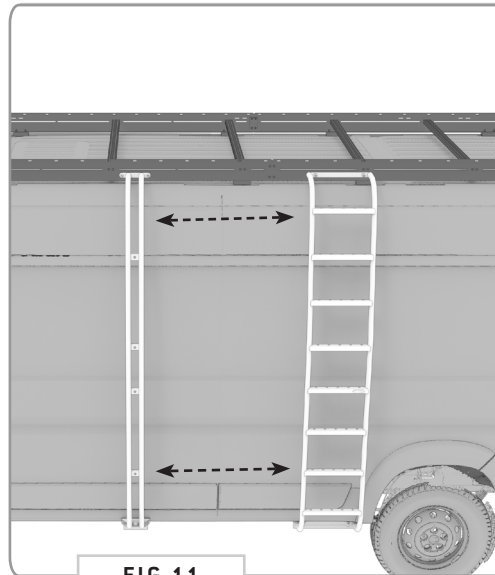
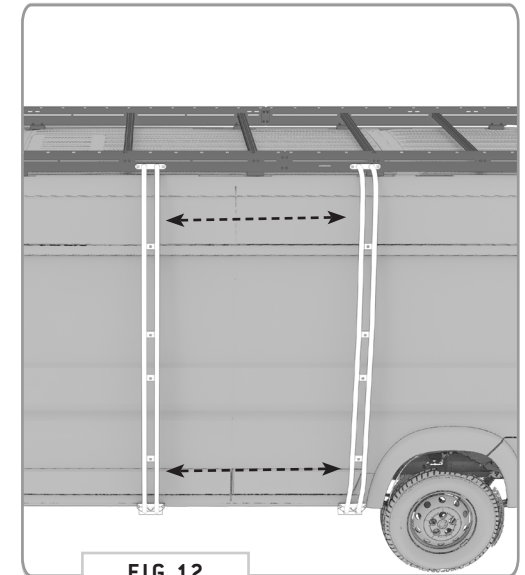

FIG 11
FIG 12
4.2 Align Pole to Secondary Mounting Point: Whether you are using an FVC Side Ladder (FIG 11) or a secondary Surf Pole (FIG 12), measure to ensure that the distance between mounting points is square from the top to the bottom.